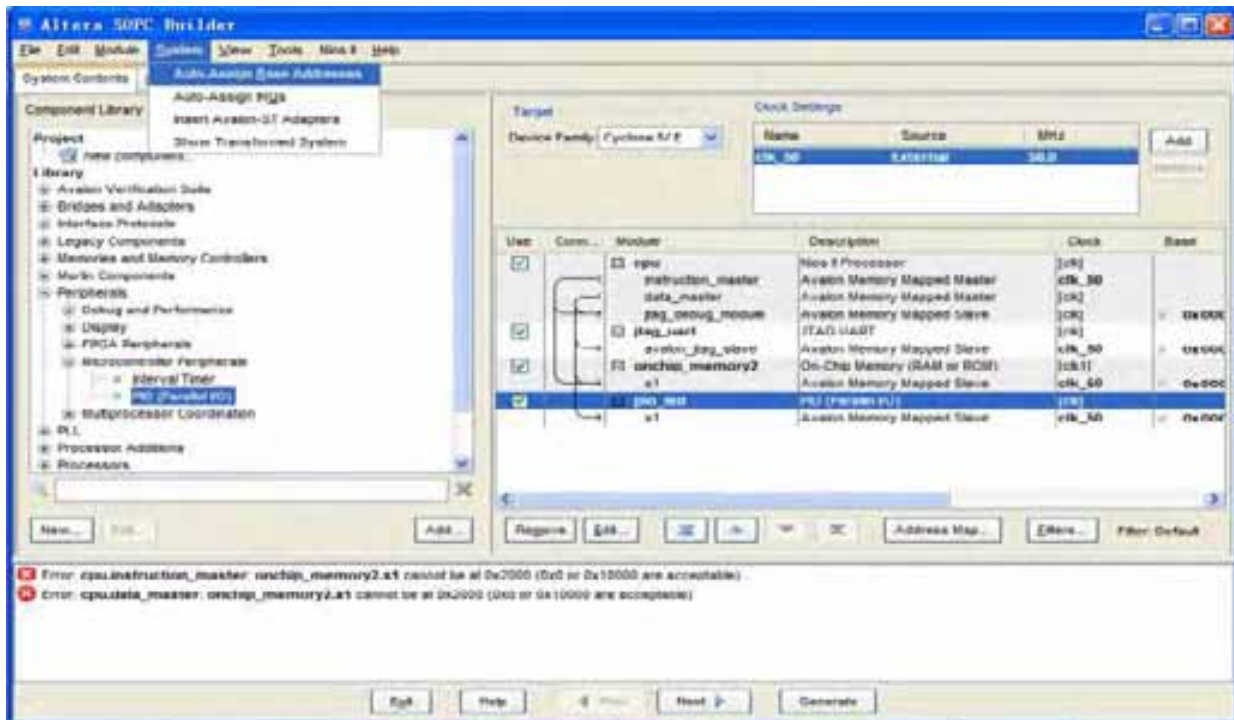
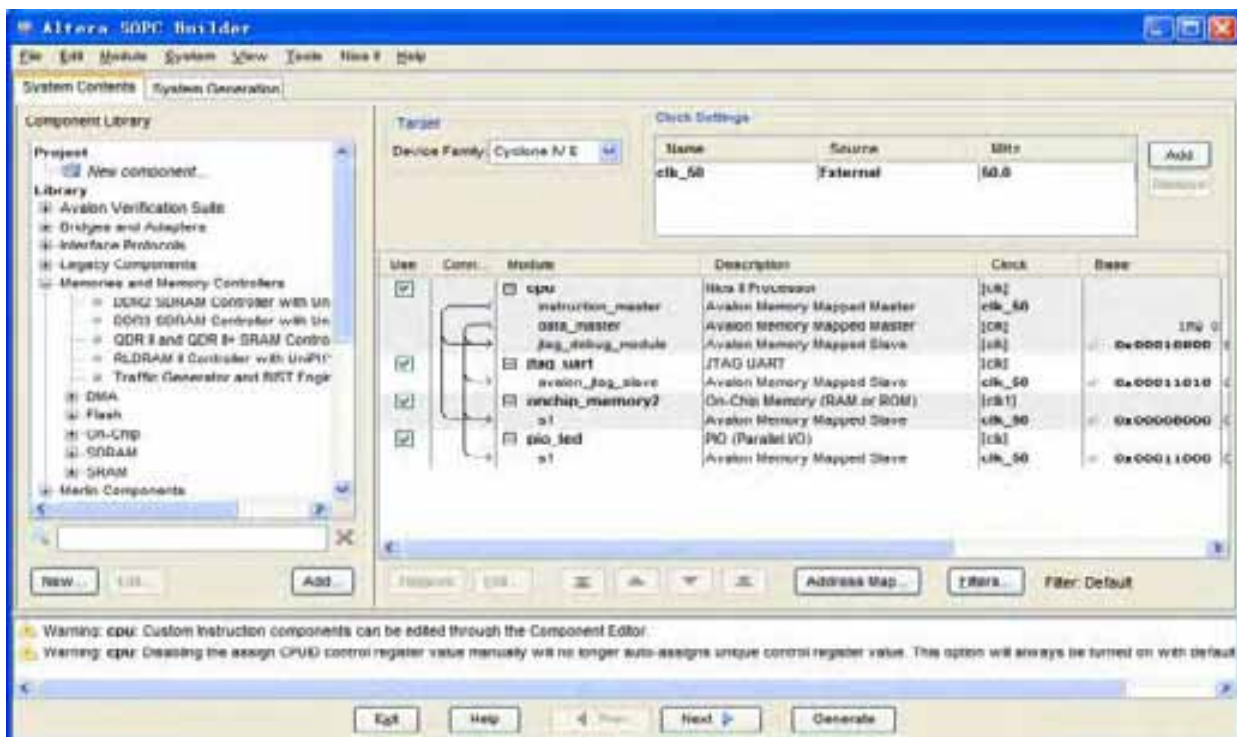

Figure 7-34 Auto-Assign Base Addresses
Figure 7-35 No errors or warnings
22. Select **System > Auto-Assign Base Addresses** as shown in **Figure 7-34**. Then, select **File > Refresh System**. After that you will find that there is no error in the message window as shown in **Figure 7-35**.